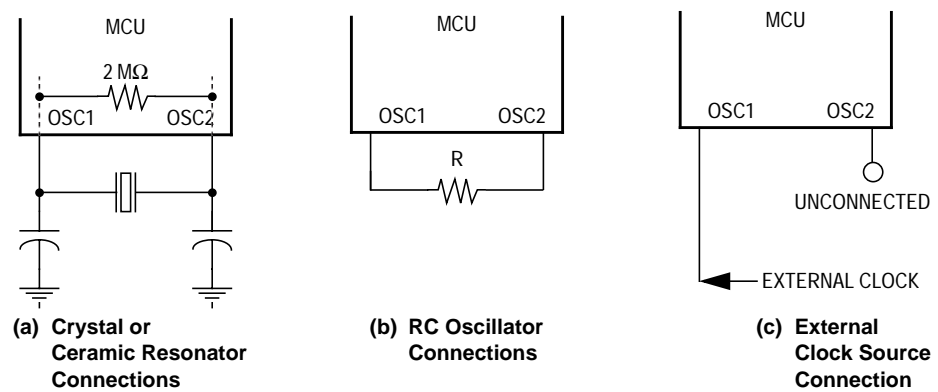

Figure 1-3. EPO Oscillator Connections
1. A crystal as shown in Figure 1-3 \(a\)
2. A ceramic resonator as shown in Figure 1-3 \(a\)
3. An external resistor as shown in Figure 1-3 \(b\)
4. An external clock signal as shown in Figure 1-3 \(c\)
The circuit in Figure 1-3 \(a\) shows a typical oscillator circuit for an AT-cut, parallel resonant crystal. The crystal manufacturer's recommendations should be followed, as the crystal parameters determine the external component values required to provide maximum stability and reliable startup. The load capacitance values used in the oscillator circuit design should include all stray capacitances. The crystal and components should be mounted as close as possible to the pins for startup stabilization and to minimize output distortion. An internal startup resistor of approximately 2 MΩ can be provided by the shunt resistor mask option between OSC1 and OSC2 for the crystal type oscillator. The crystal configuration is enabled by choosing the crystal selection in the oscillator connections mask option.
In cost-sensitive applications, a ceramic resonator can be used in place of the crystal. The circuit in **Figure 1-3 (a)** can be used for a ceramic resonator. The resonator manufacturer's recommendations should be followed, as the resonator parameters determine the external component values required for maximum stability and reliable starting. The load capacitance values used in the oscillator circuit design should include all stray capacitances. The ceramic resonator and components should be mounted as close as possible to the pins for startup stabilization and to minimize output distortion. An internal startup resistor of approximately 2 M Ω can be provided by the shunt resistor mask option between OSC1 and OSC2 for the ceramic resonator type oscillator. The ceramic resonator configuration is enabled by choosing the crystal selection in the connections oscillator mask option.
The lowest cost oscillator is the RC oscillator configuration where a resistor is connected between the two oscillator pins as shown in **Figure 1-3 (b)**. The internal startup resistor of approximately 2 M Ω is not recommended between OSC1 and OSC2 for the RC-type oscillator.
An external clock from another CMOS-compatible device can be connected to the OSC1 input, with the OSC2 input not connected, as shown in **Figure 1-3 (c)**. This configuration is possible regardless of whether the crystal/ceramic resonator or RC oscillator configuration is used.